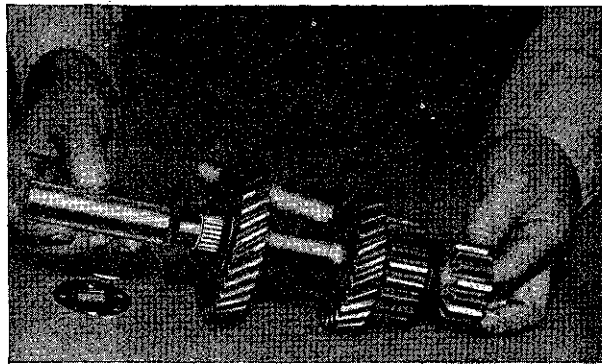
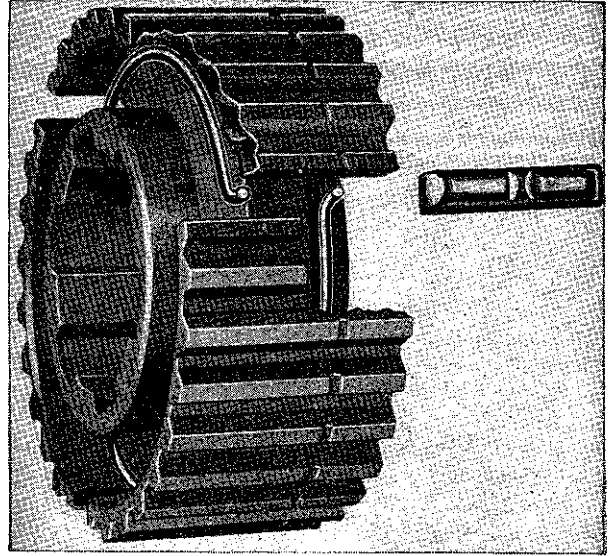

FIG. 208—COUNTERSHAFT GEAR BEARING ARBOR
FIG. 210—SYNCHRONIZER SPRINGS
g. Using special tool No. W-166 (Fig. 208) or a brass drift, drive the countershaft (45) toward the rear of the case and remove it. The countershaft gear set (55) will drop to the bottom of the transmission case. If the special tool is used, the needle bearings (49 and 51) will remain in the countershaft gear hub and the gears and bearings may later be removed as an assembly.
h. Remove the mainshaft rear bearing adapter (42).
**b.** Assemble the spacer (52), six washers (48 & 50), and four countershaft needle bearings (49 & 51) in the countershaft gear hub, using special tool (W-193 for F4-134 models and W-166 for L6-226 models) with loading sleeve as shown in Fig. 208 & 209. Place the spacer inside the hub and insert the special tool in the spacer. Place a washer at each end of the spacer and load a set of bearing rollers at each end. Then add a washer, a set of bearing rollers, and finally another washer at each end to complete the assembly. Place the countershaft gear assembly in the case but do not install the countershaft until the mainshaft and main drive gear are installed.
**c.** The countershaft gear set, when assembled in the case, should have .012" to .018" [0,305 a 0,457 mm.] end play. This clearance is obtained by selective thickness of the rear steel thrust washer (46) which is available in .0555" and .0625" [1,410 a 1,587 mm.] thickness.
**d.** To assemble the countershaft gear set in the case, first install the large bronze thrust washer (33) at the front of the case with the lip of the washer entered in the slot of the case. Use heavy grease to hold this washer in position. Next, install the steel thrust washer (46) at the rear of the case. Start the countershaft into the case just enough to hold this washer in place. Be sure the thrust washers are correctly positioned. Then position the bronze-faced washer (47) against the rear end of the gear and place the gear in its running position. Tap the countershaft through the countershaft gear set and the case, forcing out the special tool.
**f.** The sequence of assembly of the synchronizer unit is shown in Fig. 210. First install the two springs in the high and intermediate clutch hub (37) with the spring tension opposed. Place the right lipped end of one spring in a slot of the hub and place the spring in the hub. Turn the hub around and make exactly the same installation with the other spring, starting with the same slot. Install the three synchronizer shifting plates (36) in the three slots in the hub with the smooth side of the plates out. Hold the plates in position and slip the second and direct speed clutch sleeve (39) over the hub with the long beveled edge toward the long part of the clutch hub. Install the two blocking rings (40) one on each side of the hub. Install the completed assembly on the mainshaft